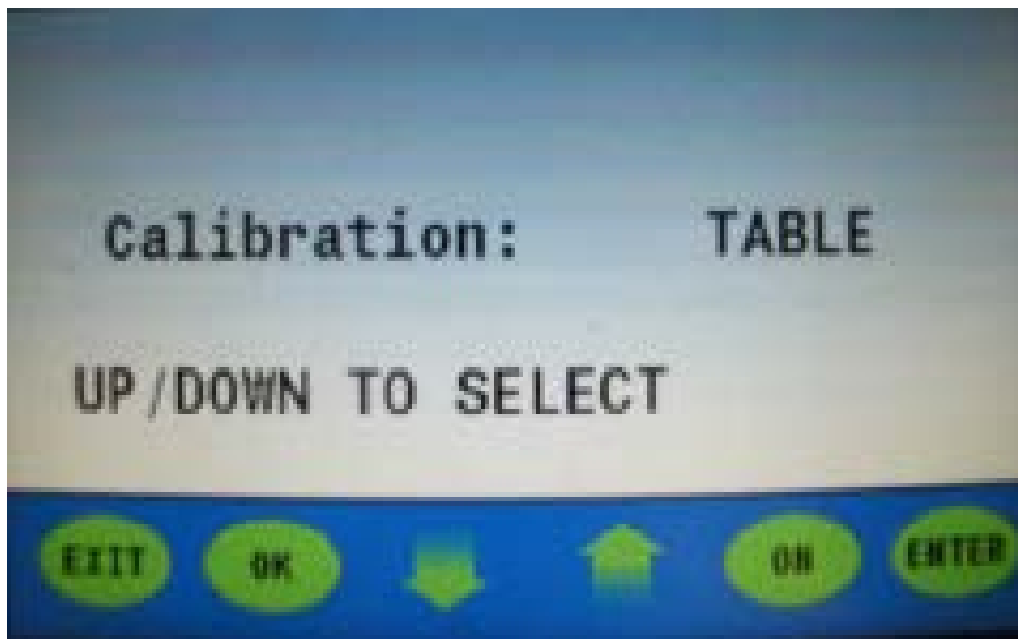

Figure 7
16. Press the **up** or **down arrow**; select “Table.” Next, press the **Enter button** (figure 7).